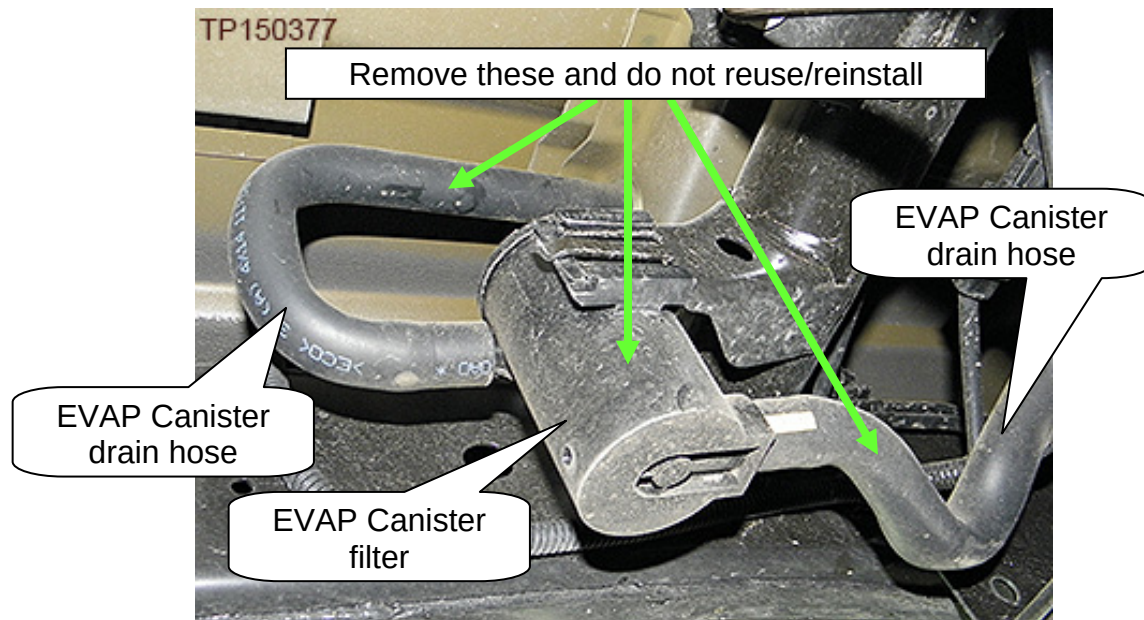

Figure 1
- EVAP Canister drain hose(s) and filter (if equipped) that connect to the vent control valve (Figure 1)
- o The new canister drain hose (drain hose) replaces the drain hose(s) and filter (if equipped) that connect to the vent control valve (Figure 1). **The existing drain hose(s) and filter are not reinstalled.**